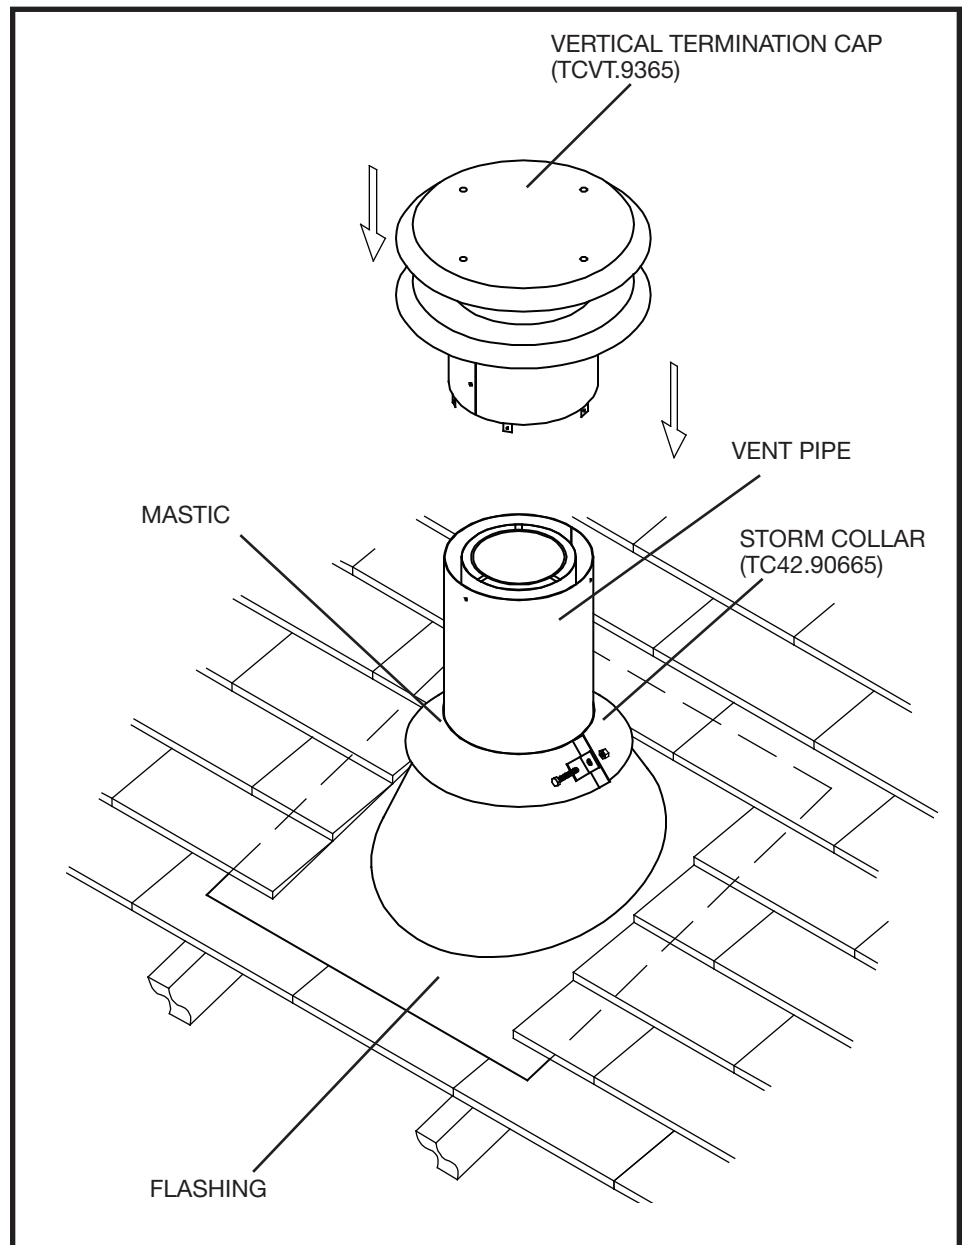

Figure 39: Roof vent terminal.
1. Place the roof flashing over the vent pipe, secure and seal it to the roof using the methods and materials appropriate for the type of roof on the building. Shingle roof example shown (Figure 39).
2. Place the storm collar down over the vent pipe until it is level. Tighten storm collar for a snug fit. Apply a thick horizontal ring of mastic around the pipe at top of the storm collar (Figure 39).